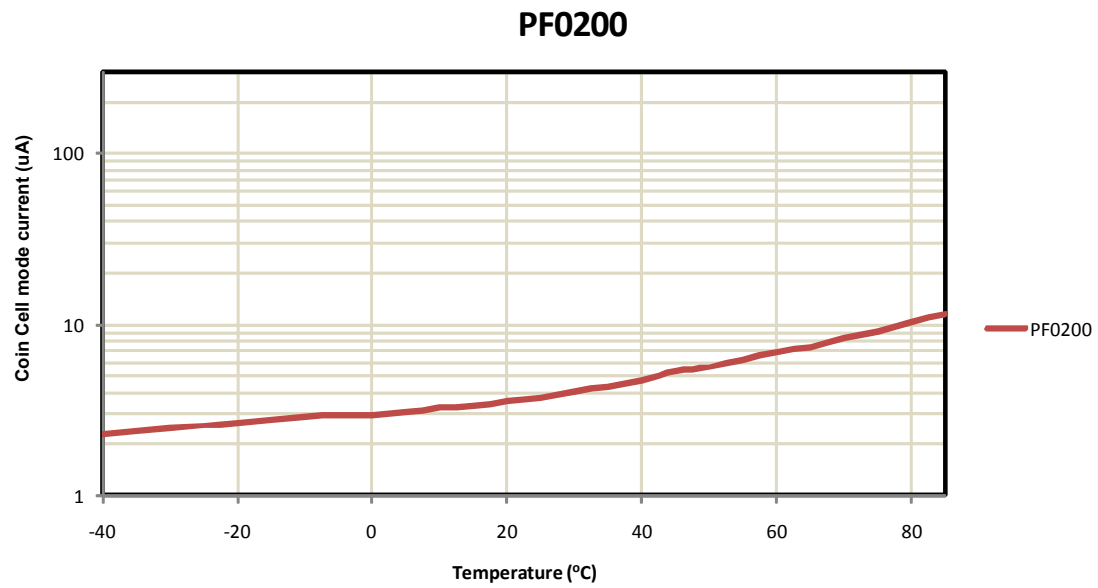

Figure 4. Coin Cell Mode Current Versus Temperature
- Refer to Figure 4 for Coin Cell mode characteristics over temperature.